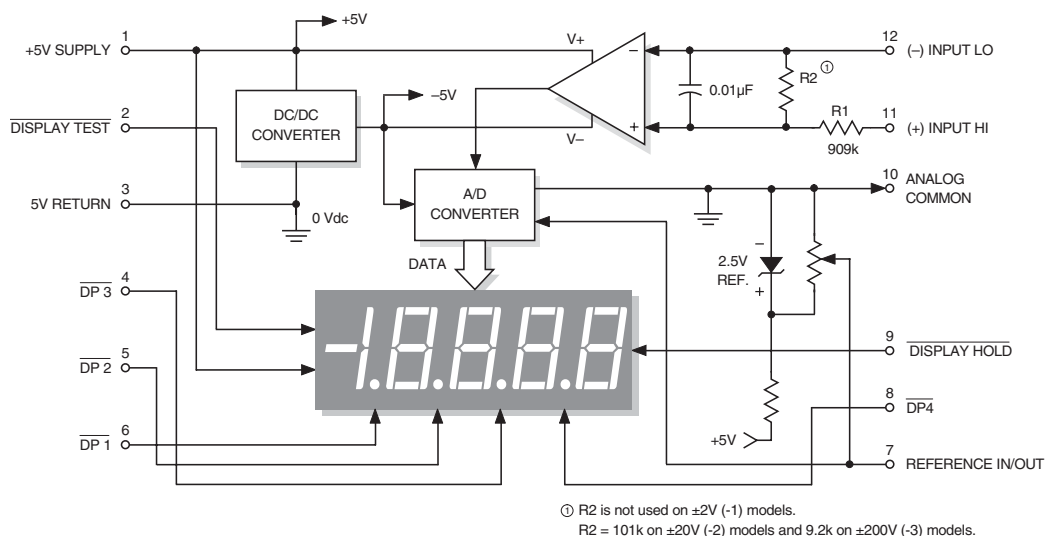

Figure 1. DMS-40PC Series Simplified Schematic
① Applies for transient or continuous overvoltages applied to (+) INPUT HI (pin 11) with (–) INPUT LO (pin 12) properly connected. Pin 12 is not overvoltage protected (see Figure 1). Voltages applied to pin 12 should not exceed the supply voltage.
② See Technical Notes.
③ BCD outputs are optional and must be specified in the part number. See Ordering Information.
④ Includes high-intensity and BCD-output models.